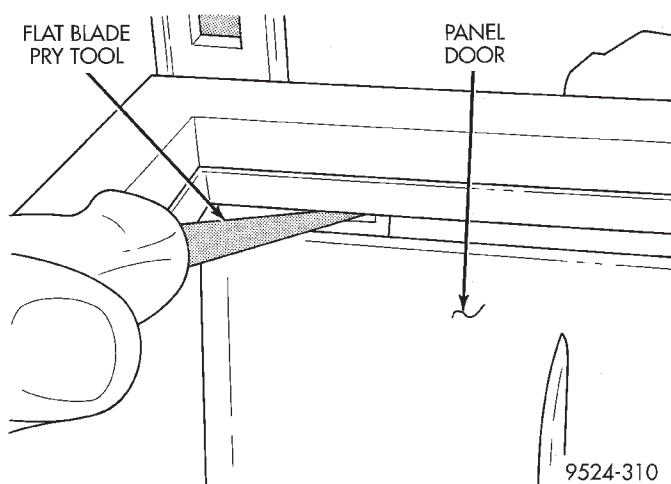
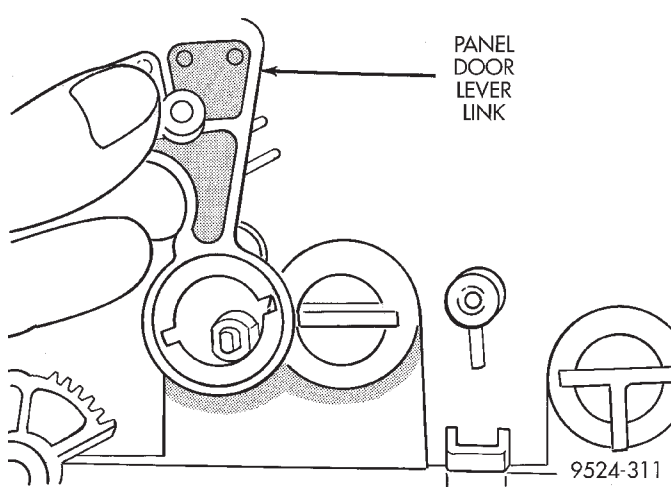

**Fig. 103 Panel Door Gear Release**
**Fig. 104 Panel Door Lever Link**
(31) From panel door access, using a long thin screwdriver, push in release tang on panel door gear (Fig. 103).
(32) Remove panel door gear from housing.
(33) Line up slots on panel door lever link. Remove panel door lever link from housing (Fig. 104).